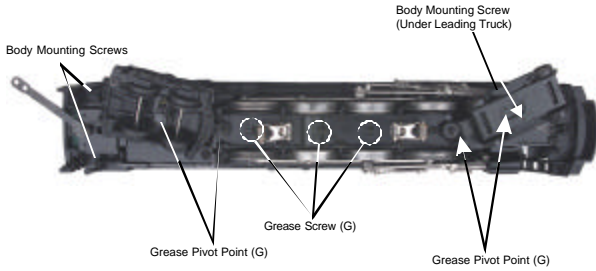
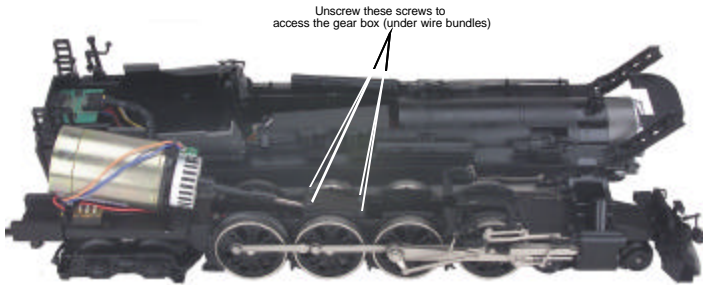

Figure 6: Removing The Body And Lubricating The Grease Points
Figure 7: Motor Gearing Grease Plate Screws
2. First remove the trailing truck on the chassis by removing the screw shown in Fig. 6. Then remove the four body mount screws to separate the chassis from the boiler.
3. Remove the Phillips screw (marked “GREASE”) located at each set of wheels (Fig.6) and the gearbox cover screws (Fig. 7).
You should also grease the leading and trailing locomotive truck tongues to enhance their ability to slide on the chassis. Follow the grease points shown on Fig. 6.
1. Remove the boiler from its chassis as shown in Fig. 6 on pg. 13.